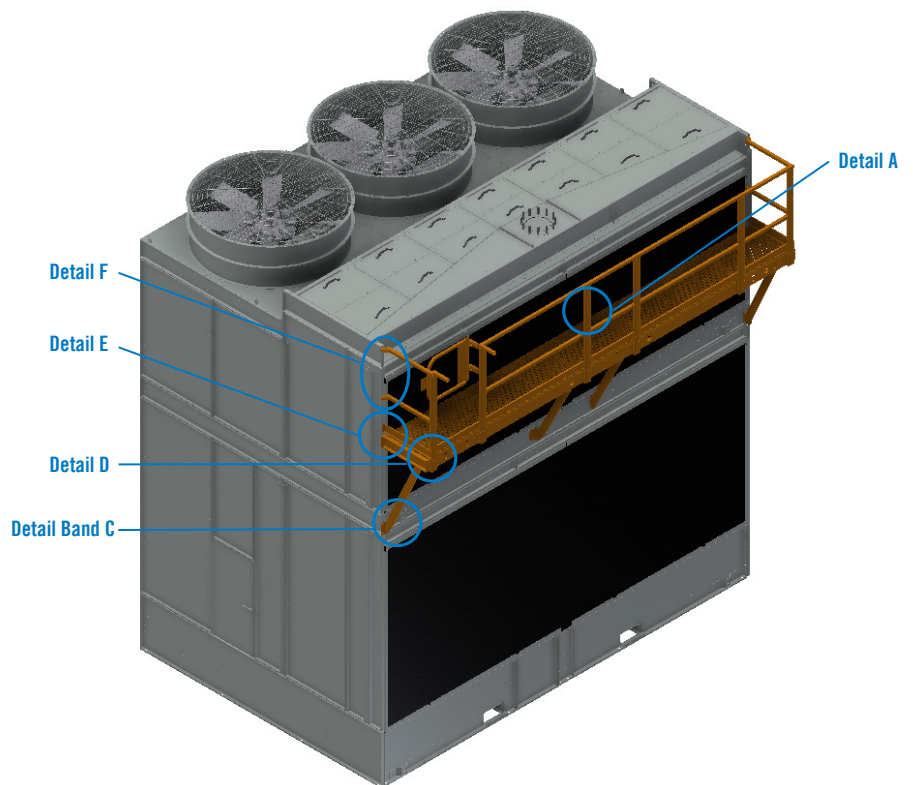

Figure 24. External Access Platform
1. For S15E/XES15E-1218-x units only, lift the platform module into place and secure the platform frame to the pre-mounted brackets using 3/8" bolts provided See **Figure 24, Detail A**.